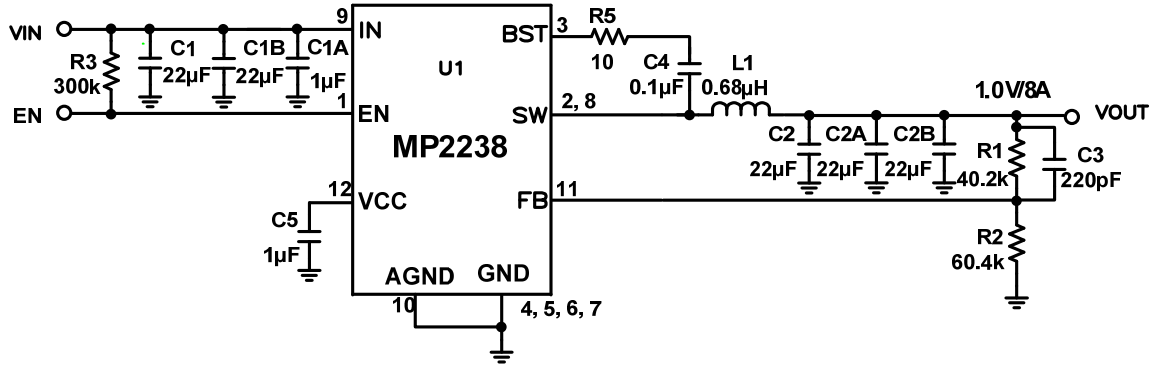

Figure 8:  $V_{IN} = 12V$ , Output = 1.0V/8A
9) The recommended layout is based on the Figure 8 in Typical Application Circuit section.
Figure 8 shows a detailed application schematic. See the Typical Performance Characteristics section on pages 5 to 10 for the typical performance and circuit waveforms. For more device applications, see the related evaluation board datasheets.